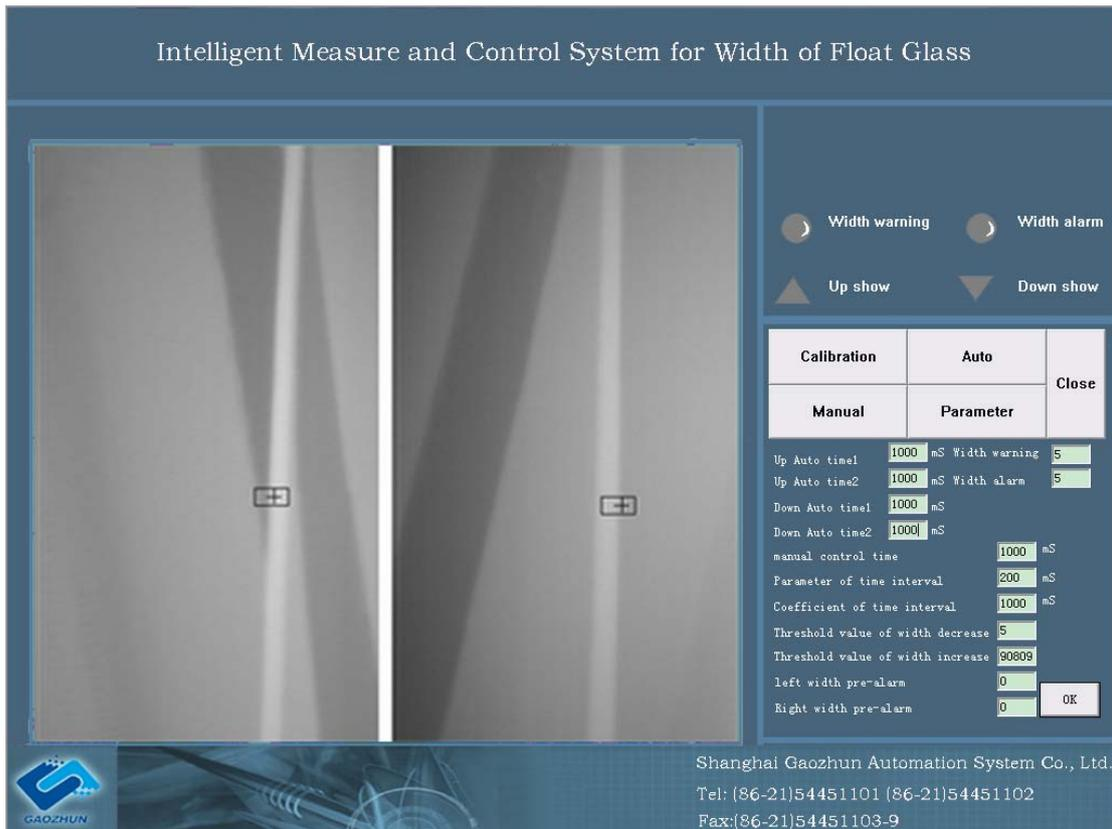

Fig. 6 Interface of Parameter Setting
5.3 After click the button of “parameter” with the left key of mouse, it will enter into the interface of parameter setting, as shown in Fig. 6